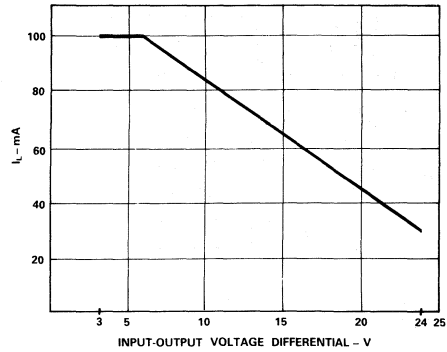
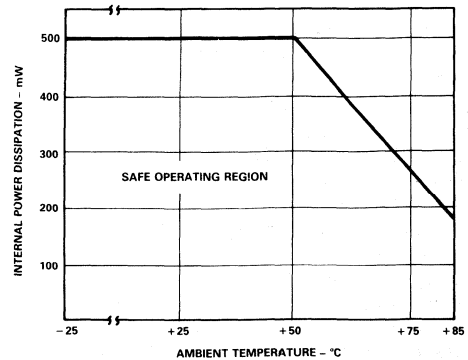

Figure 12. Excitation Source Load Current vs. Input-Output Voltage Differential,  $\leq 25^{\circ}$ C
Figure 13. Excitation Source Internal Power Dissipation vs. Temperature
**Bridge Excitation:** The adjustable bridge excitation is specified over a wide regulator input voltage range (+9.5V to +28V). Maximum load current  $I_L$  as a function of regulator input-output differential voltage is shown in Figure 12. The maximum output current also depends on ambient temperature, and above +50 $^{\circ}$ C a derating factor of 2mA/ $^{\circ}$ C must be applied. The safe operating region for internal power dissipation vs. temperature is graphed in Figure 13.